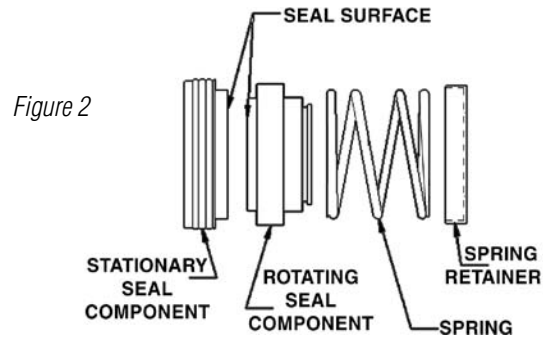

Figure 2
5. Remove impeller (item 4), rotating seal component, seal spring and seal spring retainer. Discard seal components after removal. (See Figure 2).
6. Remove backhead assembly (item 7) and press out the stationary seal component. Discard stationary seal component after removal.
4. Lubricate the inside diameter of the rotating seal component with P-80 (or equivalent) or soapy water and press it over the impeller sleeve (item 4) with the rotating face pointed away from the impeller as shown in Figure 2 (towards the stationary face).
5. Insert key into the motor keyway. Visually determine key location in impeller sleeve. Align keyway slots on motor shaft and impeller sleeve. Slide impeller assembly over the motor shaft. Lubricate o-ring of new self-sealing bolt (item 6) with suitable, compatible lubricant. Insert self-sealing bolt into the eye of the impeller using a 9/16” deep well socket. Insert a screwdriver into the motor fan to prevent motor shaft from rotating. Tighten the bolt to 12-ft lbs.
6. Place impeller housing (item 1) over backhead (item 7) and o-ring (item 3) and make sure discharge is in the correct orientation (usually 12 o'clock).